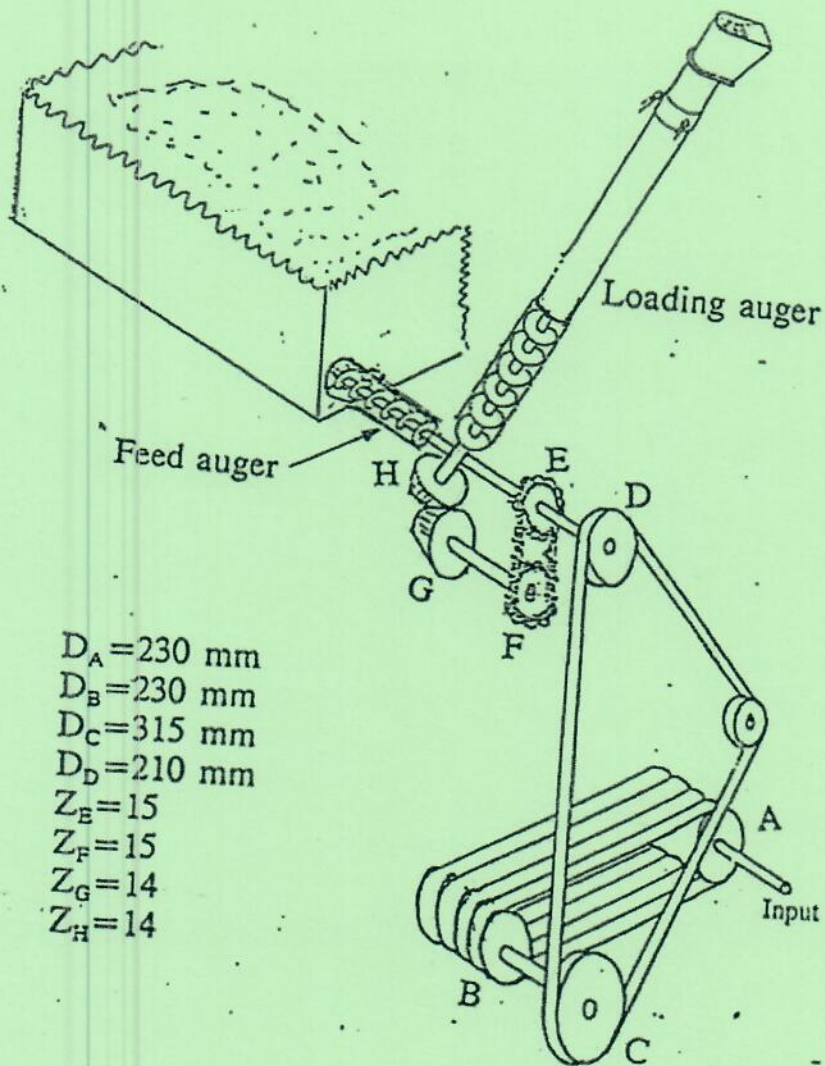

Figure 2 Power transmission elements for a loading auger of maize harvester
- c) Figure 2 shows a drive mechanism for a loading auger of a maize harvester. The input pulley at A is driven by a tractor PTO rotating at 540 rpm and the power is transmitted by belts through pulleys B, C, D and by a chain drive at sprockets E and F. The power is turned through 90° by bevel gears at G and H. The loading auger is driven by gear H. Determine
- ii. The amount of maize (tons) that will be in the tank after one (1) hour of loading if 20.6 g of maize are delivered per revolution. [6 marks]